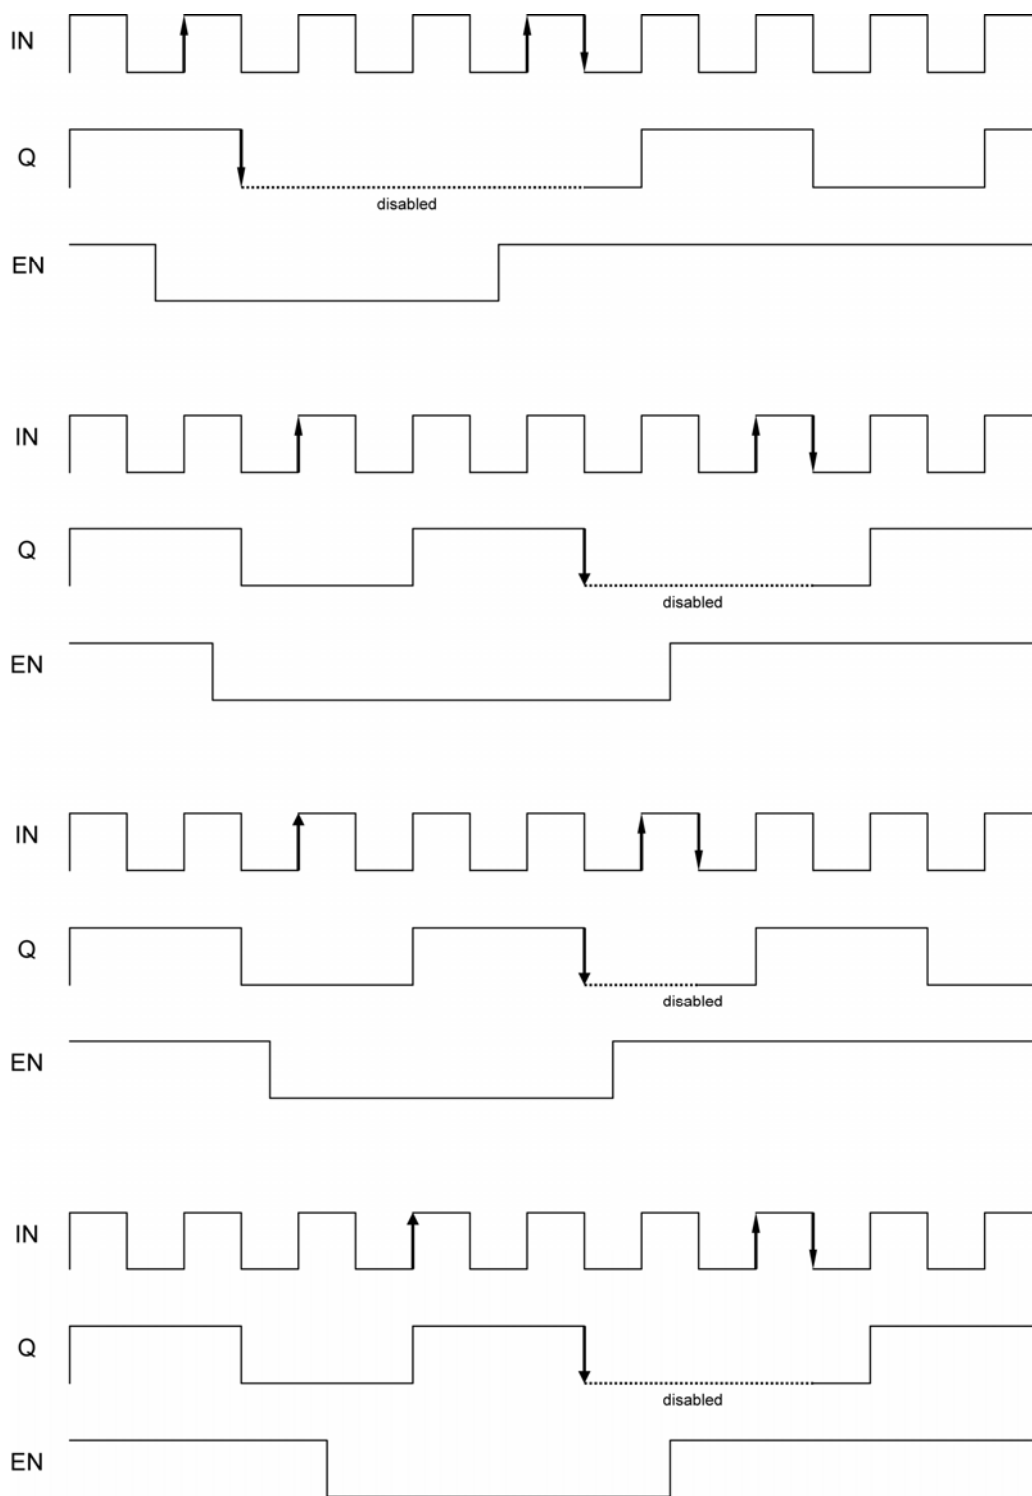

Figure 1b. Enable Output Timing Diagram Examples
2. The enable/disable function always guarantees the full pulse width at the output before the clock outputs are disabled, non-depending on the divider ratio. Refer to Figure 1b for examples.